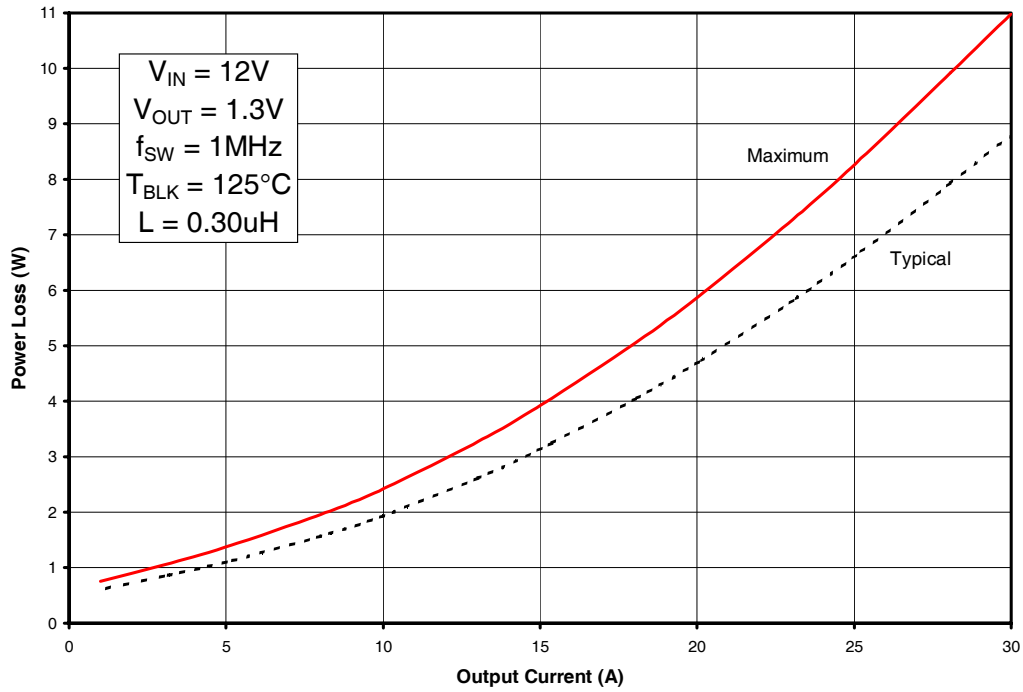
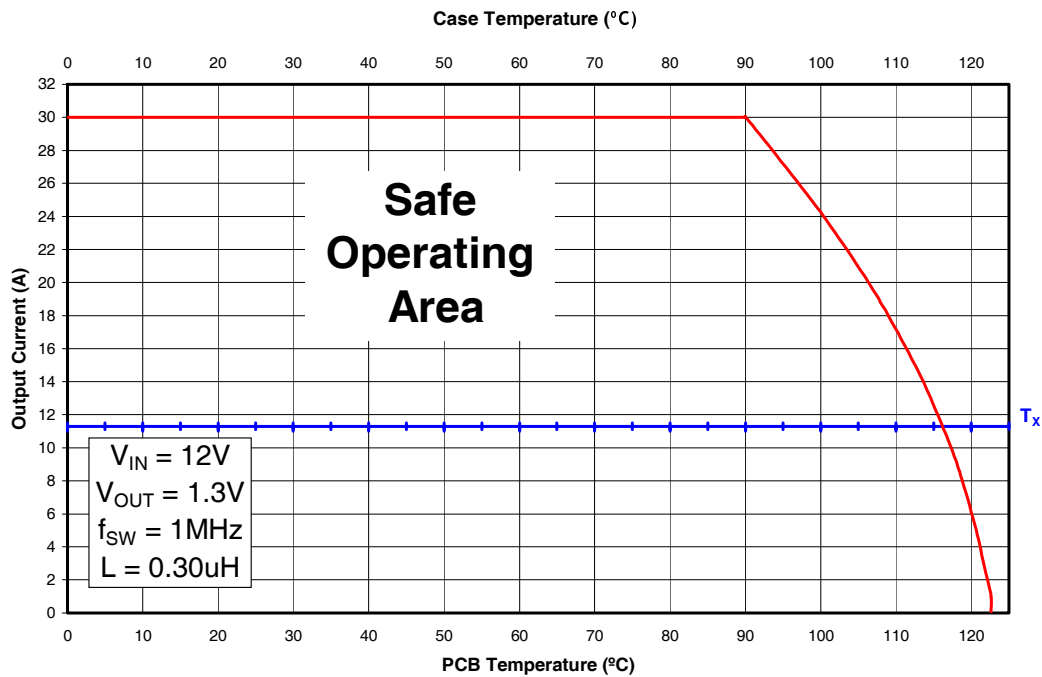
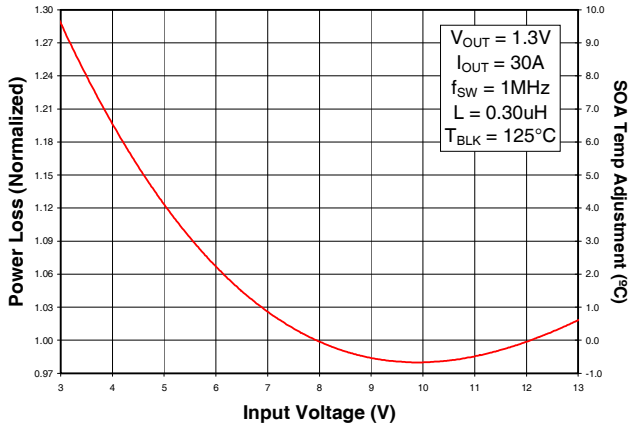

Fig. 1: Power Loss vs. Current
Fig. 2: Safe Operating Area (SOA) vs. T_{PCB} & T_{CASE}
Fig. 3: Normalized Power Loss vs. V_{IN}
To make adjustments to the power loss curves in Fig. 1, multiply the normalized value obtained from the curves in Figs. 3, 4, 5 or 6 by the value indicated on the power loss curve in Fig. 1. If multiple adjustments are required, multiply all of the normalized values together, then multiply that product by the value indicated on the power loss curve in Fig. 1. The resulting product is the final power loss based on all factors. See example no. 1.
To make adjustments to the SOA curve in Fig. 2, determine your maximum PCB Temp & Case Temp at the maximum operating current of each iP2002PbF. Then, add the correction temperature from the normalized curves in Figs. 3, 4, 5 or 6 to the T_X axis intercept (see procedure no. 2 above) in Fig. 2. When multiple adjustments are required, add all of the temperatures together, then add the sum to the T_X axis intercept in Fig. 2. See example no. 2.
- (Fig. 1) Maximum power loss = 11W
- (Fig. 3) Normalized power loss for input voltage ≈ 0.98
- (Fig. 3) Normalized SOA Temperature for input voltage $\approx -0.8^{\circ}\text{C}$